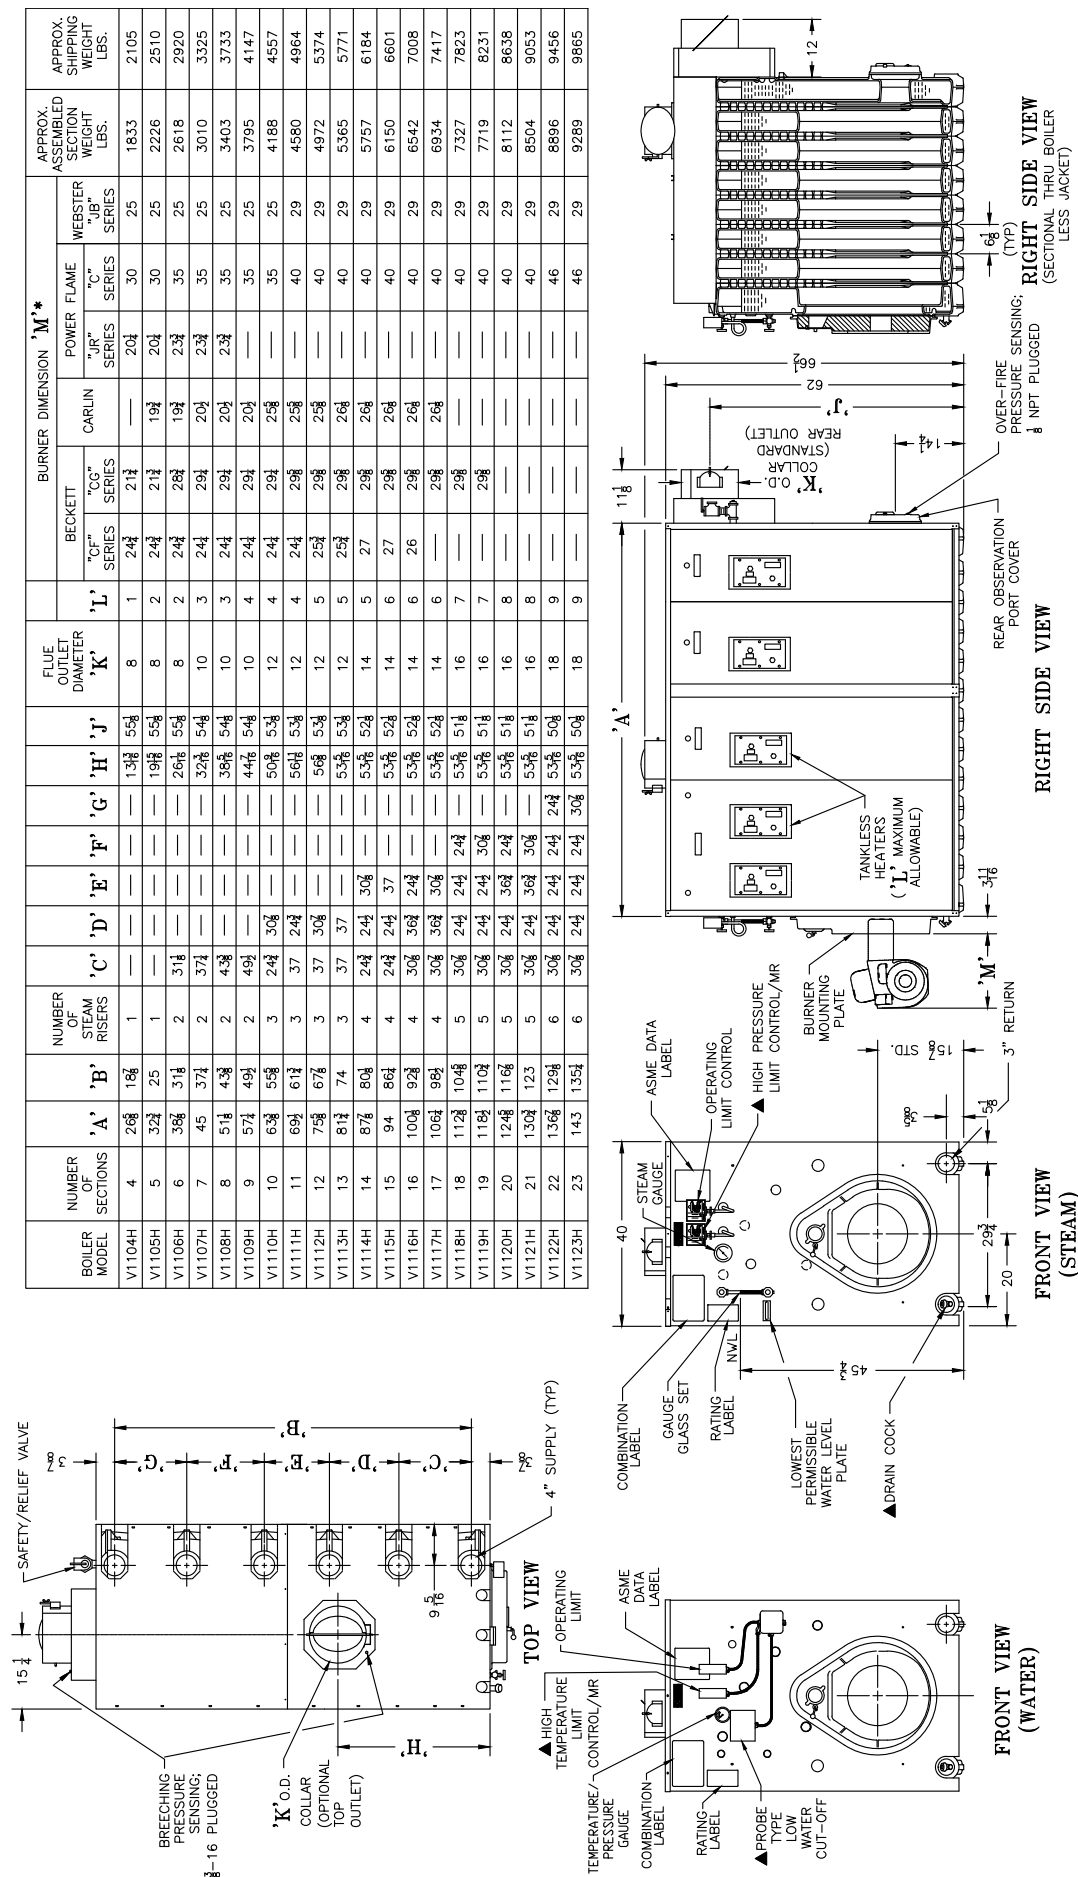
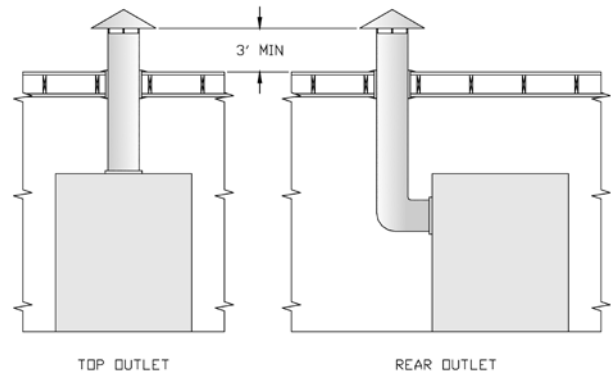
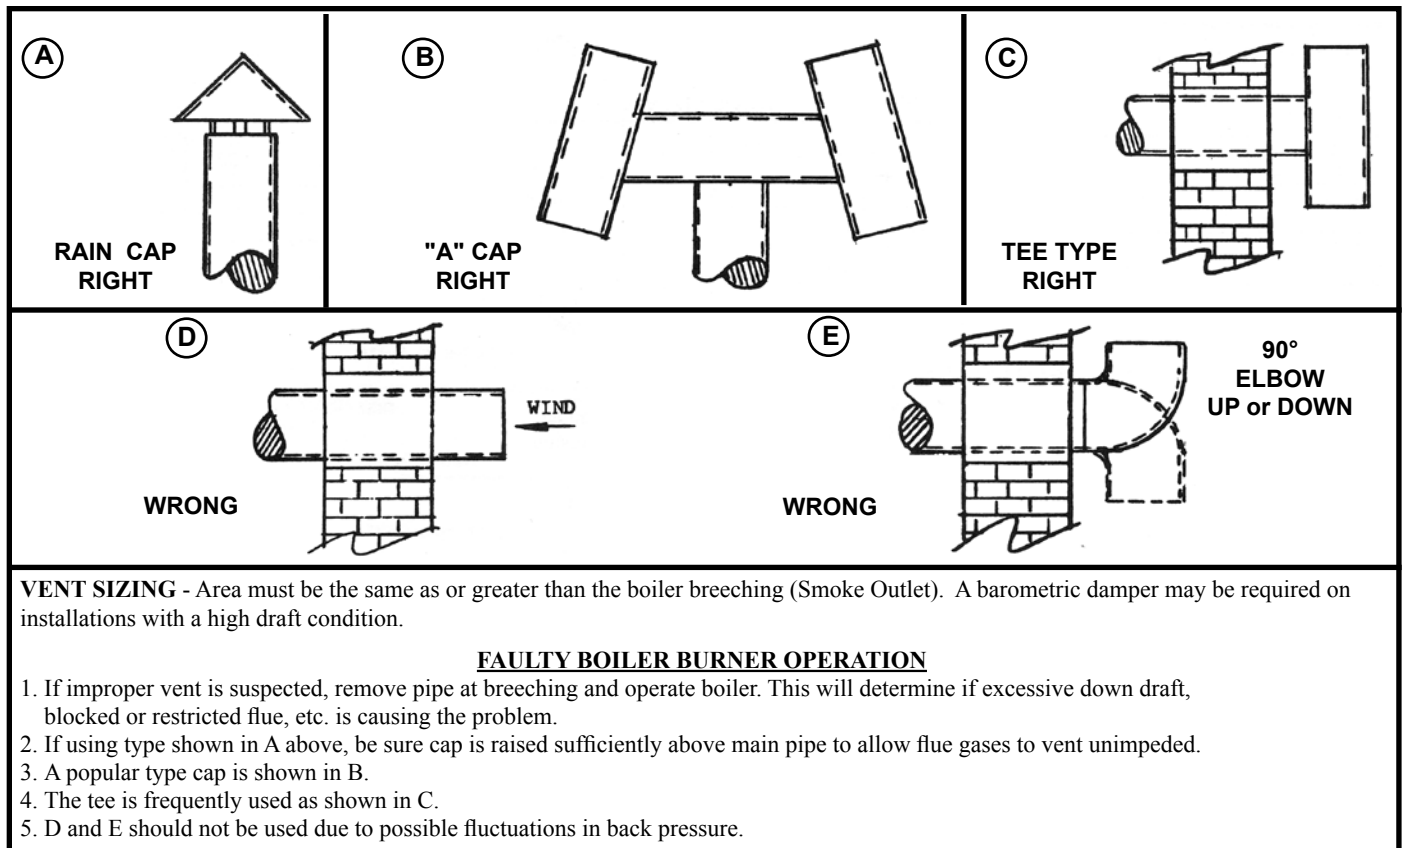

Figure 1: Dimensional Information
Figure 3a: Typical Arrangement For Stub Vent
Figure 3b: Vents — Faults & Suggestions
- Locate the unit in the boiler room so as to provide ease of venting and adequate clearance for maintenance, serviceability, and installation of piping. Refer to Figure 1 for boiler dimensional data.
The V11H Series boiler is designed for forced draft firing and may be used with a conventional natural draft stack (15' minimum height) or a stub vent, sometimes called a diesel stack (see Figure 3a). See Table I for the proper vent outlet size. For low silhouette vent terminations, see Figure 3b. Draft controls are not normally required, although they may be used on installations where a natural draft stack is used or on multiple boiler installations with a common stack. The boiler is provided with a breeching damper, which should be adjusted to maintain a positive pressure of 0.1" W.C. in the vent connector box during burner high fire operation (see breeching pressure sensing port in Figure 1).
If the venting system is designed for positive or forced draft venting, the boiler, vent connector and stack will operate under positive pressure. Gas tight vent systems designed for pressure systems must be used to prevent flue by-product leakage. The vent height is usually limited to prevent negative draft, typically three (3) feet above the roof line (see Figure 3a). The damper shall be adjusted to maintain a positive pressure of 0.1" W.C. in the vent connector box during burner high fire operation (see breeching pressure sensing port in Figure 1).